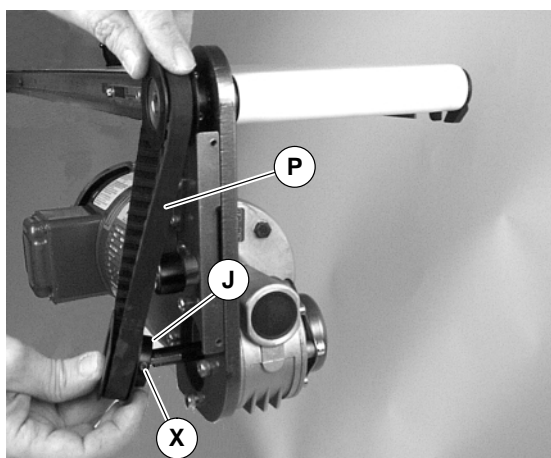

Figure 14
NOTE: If drive pulley (J of Figure 14) is replaced, wrap timing belt around drive pulley and complete step 3.
3. Loosen drive pulley set screws (X of Figure 14). Remove drive pulley (J) and timing belt (P).
NOTE: Drive pulley (J of Figure 14) is removed. Wrap timing belt around drive pulley and complete step 13.